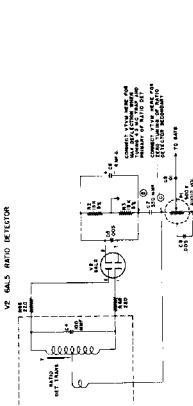

Fig. 6A
The sound alignment of this receiver is best done with an AM generator and a vacuum tube voltmeter. By feeding a 4.5 megacycle signal into the grid (pin 1) of the video amplifier (V-9) Fig. 7 and placing the vacuum tube voltmeter at (pin 7) of the ratio detector (V-2) Fig. 7 also (D) Fig. 6A the 4.5 megacycle trap and the primary of the ratio detector can be adjusted. In both cases the generator should be attenuated so that the reading on the voltmeter is between minus 3 and minus 4 volts, and both adjustments are for maximum deflection of the meter. The meter should then be connected to point (C) Fig. 6A. The secondary should then be adjusted for a zero reading, Fig. 6B. The primary of the ratio detector transformer is (F) Fig. 7, found on the underside of the chassis, the secondary is (H) Fig. 7 on top.